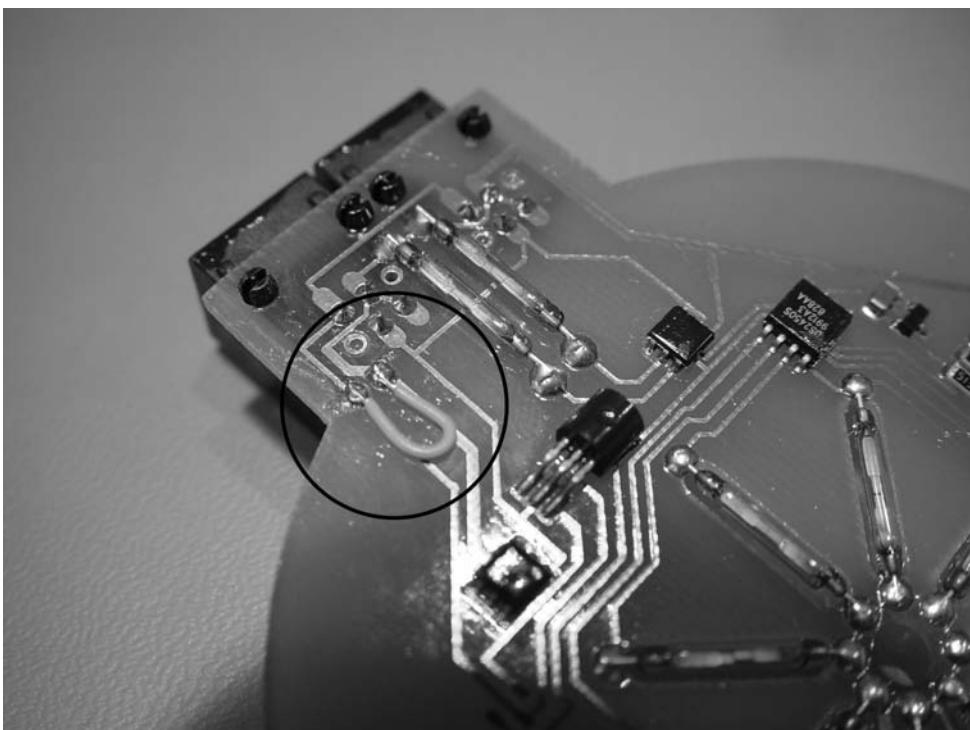

FIGURE 6-6: Jumper the temperature sensor for parasitic power.
6. Carefully solder the jumper wire across the two pads shown in Figure 6-6. You may have to get the solder a bit hotter than normal to burn through the circuit board's coating.